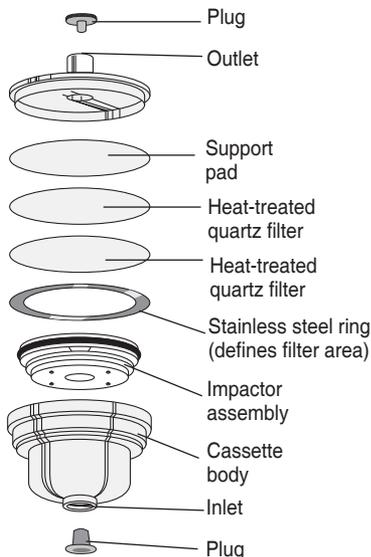

Figure 1. Exploded view of
1. Remove the plug from the outlet of the cassette (*Figure 1*).